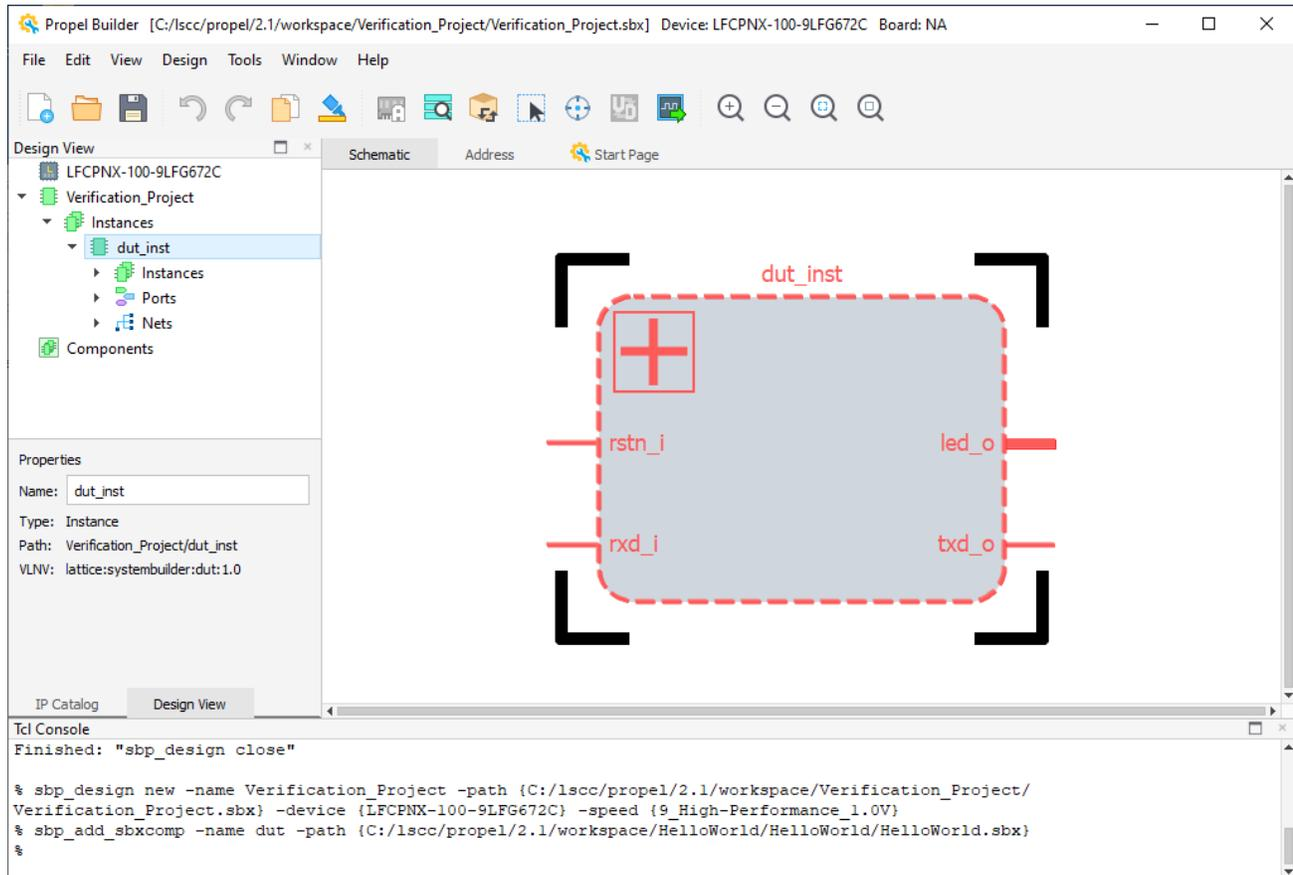

Figure 2.68. Verification Project
9. Click **Finish**. A dut_inst of SoC project can be seen in the Schematic view (Figure 2.68).